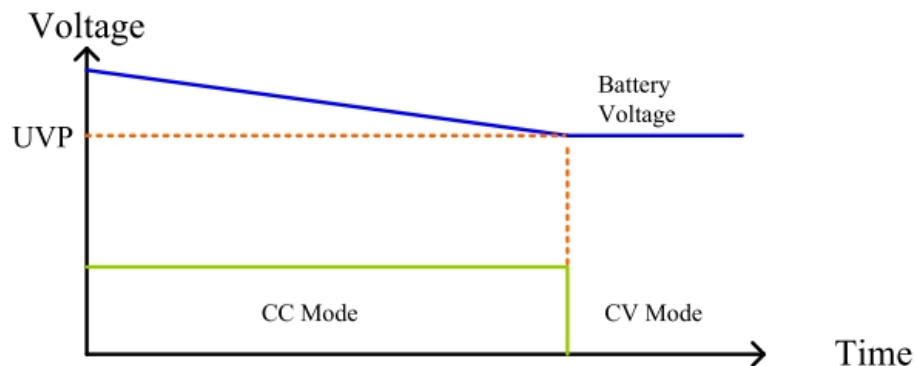

Fig 5-16 TYPE 2 Battery Discharge Figure
When testing loads on of Constant current (CC) mode, battery voltage is less than UVP Setting values, Constant current (CC) mode auto change to Constant voltage (CV) mode as Fig 5-16 shows.